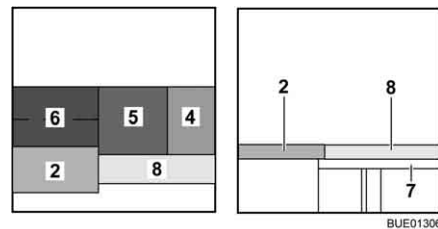

Fig. 134 After conversion
- Place the seat cushion (Fig. 134,5) in the centre.
- Place the back cushion (Fig. 134,4) between the seat cushion and the wall.
- Hook the bed widening (Fig. 134,7) into the recesses on the bench seats.
- Place the additional cushion (Fig. 134,8) on the bed widening.